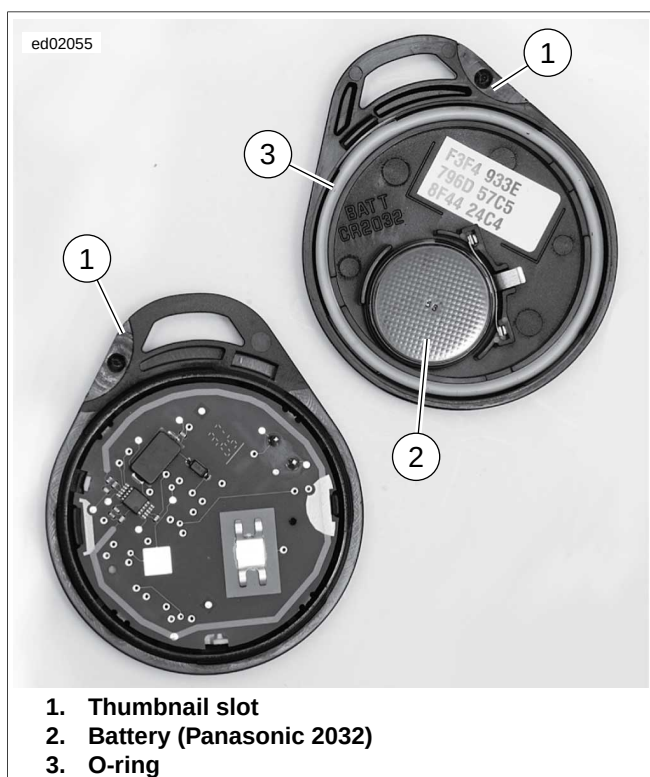

Figure 3-35. Open Fob: HFSM
1. See Figure 3-35. Open the fob case.
- a. Place a thin blade in the thumbnail slot (1) between the 2 halves of the case.
2. Replace battery (2).
3. With O-ring (3) in place, align case halves and snap case halves together.